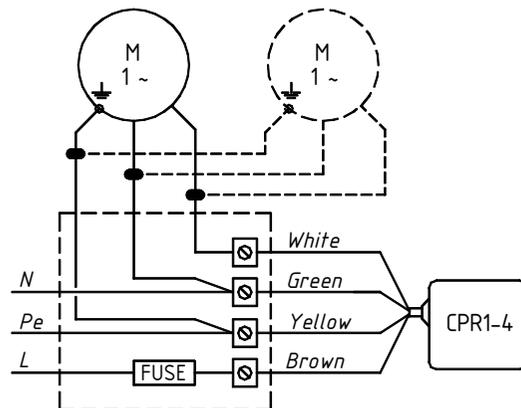

Fig. 3. Electrical connections
- Make electrical connections according to Fig. 3. To supply power and connect the motor, use a cable with a cross-section of at least 0.75 mm² that complies with local electrical safety regulations. All cables must withstand operating temperatures up to +80 °C.